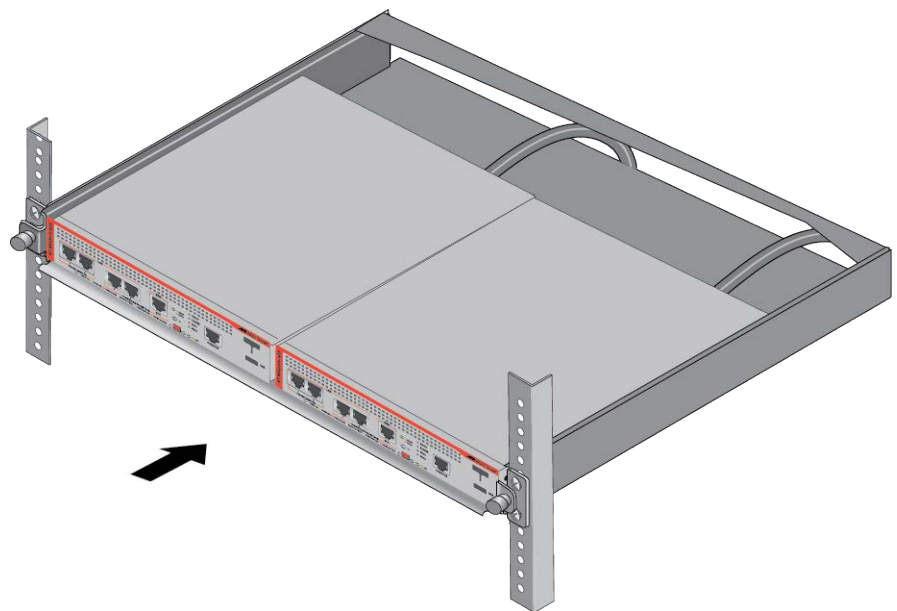

Figure 42. Sliding in the RKMT-J15 Equipment Rack Tray
10. Slide in the tray. Refer to Figure 42.